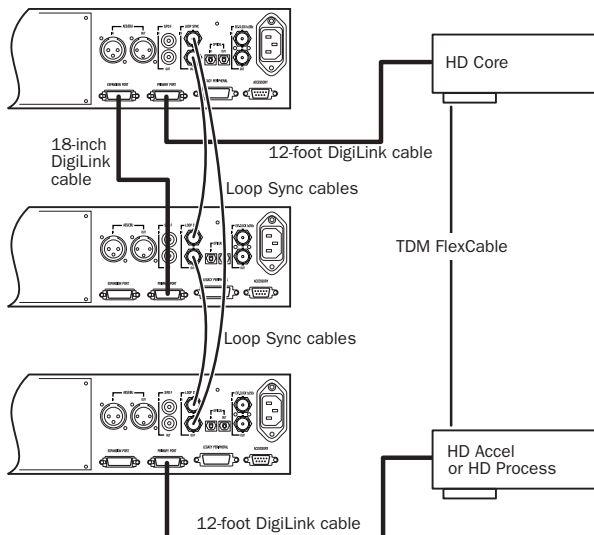

Figure 6. Three 96 I/Os, 48-channel
- 3 Connect additional HD-series audio interfaces to subsequent Pro Tools|HD audio interfaces or cards. See Figure 6 on page 7.